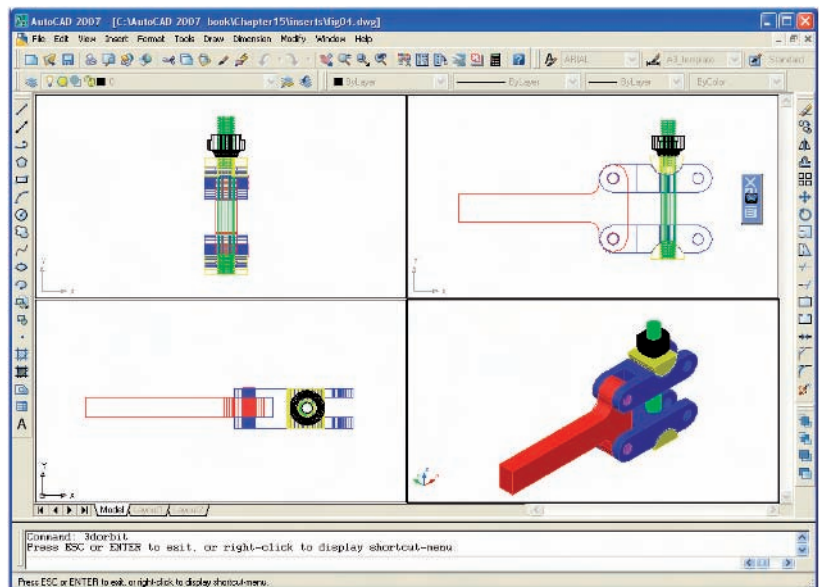

Fig. 15.4 First example – inserting 3D blocks
First example – inserting 3D blocks (Fig. 15.4)
7. Using the **Move** tool, move the individual 3D models into their final places on screen and render the **SE Isometric** viewport. Shade using **3D orbit/Visual Styles/Realistic** (Fig. 15.4).